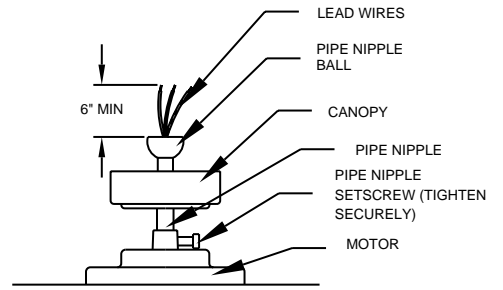

FIGURE 5B.
A. INSERT PIPE NIPPLE THROUGH CANOPY AND FEED WIRES FROM TOP OF MOTOR THROUGH PIPE NIPPLE. SCREW PIPE NIPPLE INTO FAN UNTIL TIGHT (AT LEAST 4-1/2 TURNS). THE SETSCREW LOCKING THE PIPE NIPPLE TO MOTOR MUST BE TIGHTENED VERY SECURELY (SEE FIGURE 5B). FAILURE TO TIGHTEN SCREW COULD RESULT IN FAN FALLING.